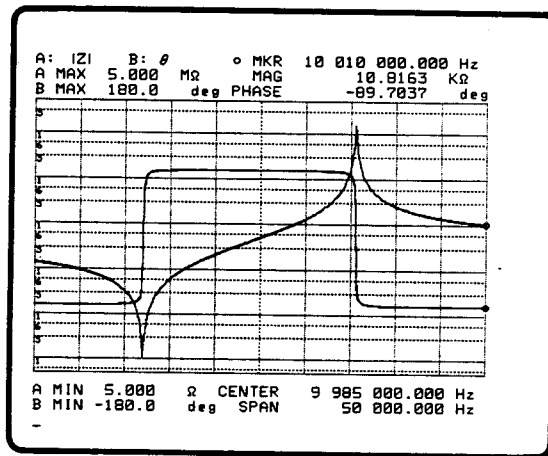

Figure 3-158. Measurement Results ( $|Z|-\theta$ )
4. The measurement results will be displayed on the screen as shown in Figure 3-158. Use the '**AUTO SCALE A**' and '**AUTO SCALE B**' softkeys to scale the measured data.